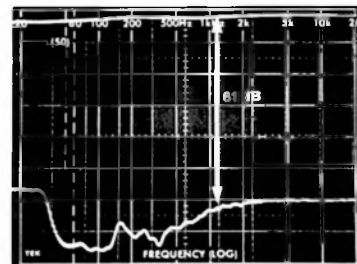

Fig. 54. Measuring Console Separation
10. To check the console separation, sweep the left channel while the spectrum analyzer input is connected to the right channel output. A display such as shown in figure 54 may be obtained. The difference between the normal response of the right channel and the leakage response is the separation and may be read directly in dB. Repeat the separation test from the right to the left channel.